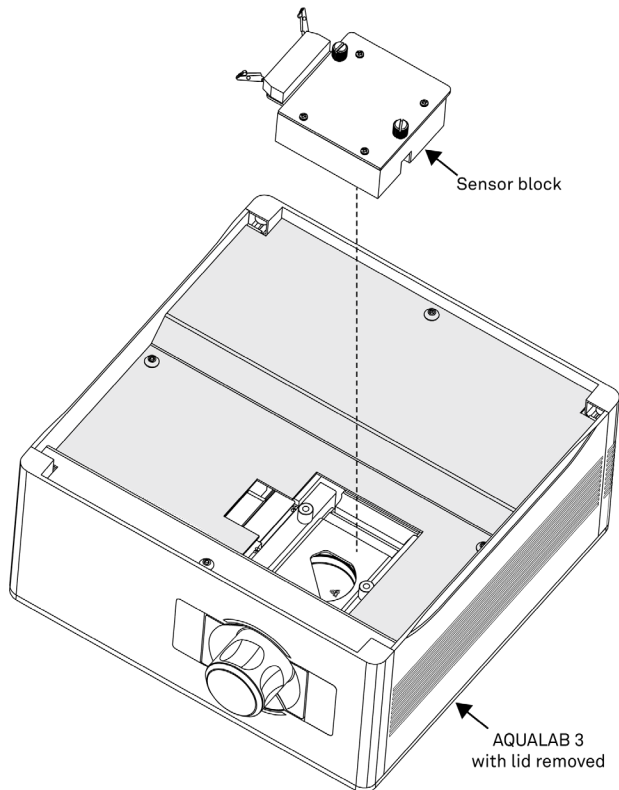

Figure 85 Remove sensor block
6. Loosen the thumbscrews and lift sensor block to remove (Figure 85).